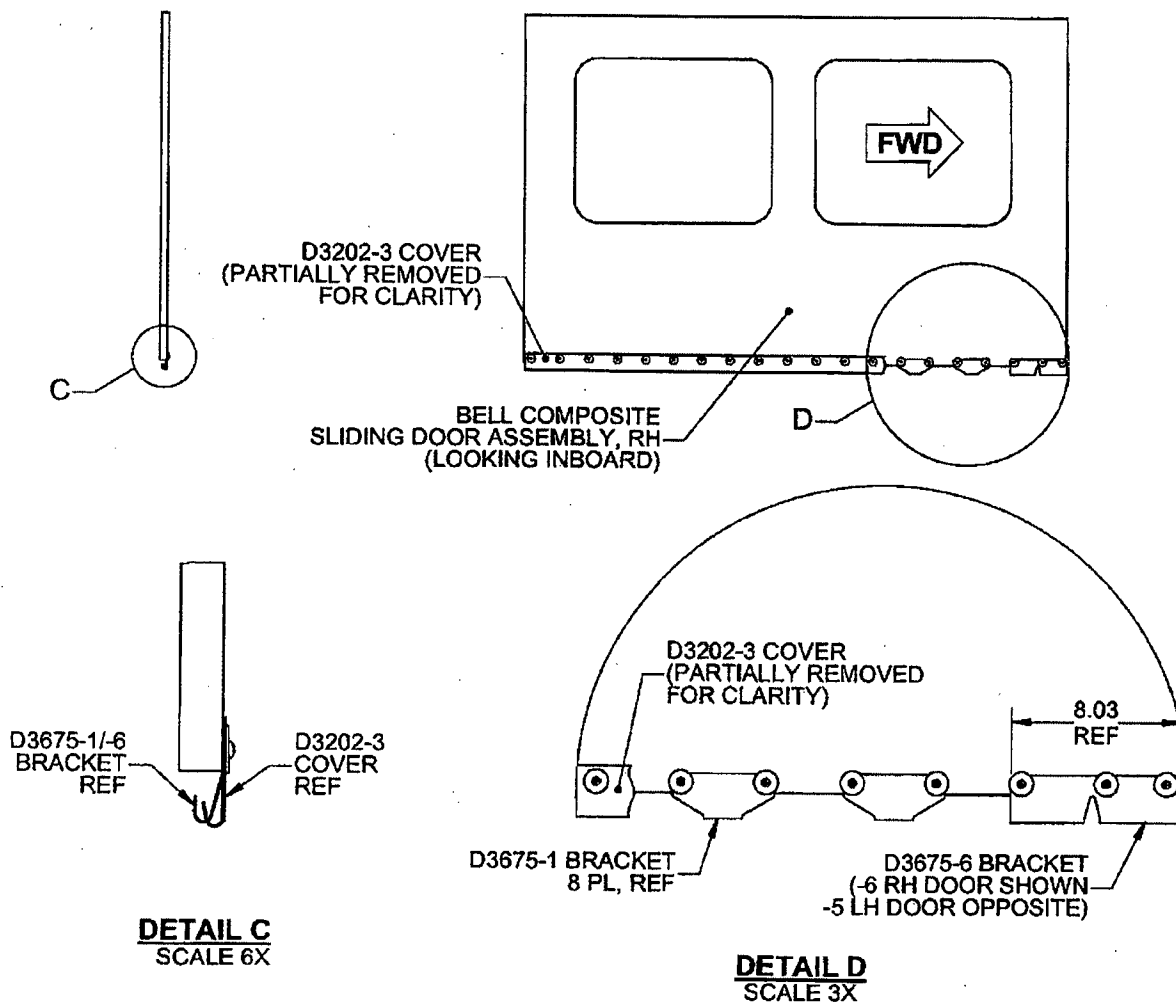

FIGURE 2: D3675-5/-6 BRACKET INSTALLATION ON COMPOSITE DOORS
Refer to Figure 1 Sheet 2 (aluminum doors) or Figure 2 Sheet 3 (composite doors).
- 3) Install the D3199-3/-4 or D3675-5/-6 bracket as applicable in lieu of the removed -1 bracket. Refer to Figure 1 Sheet 2 (aluminum doors) or Figure 2 Sheet 3 (composite doors).